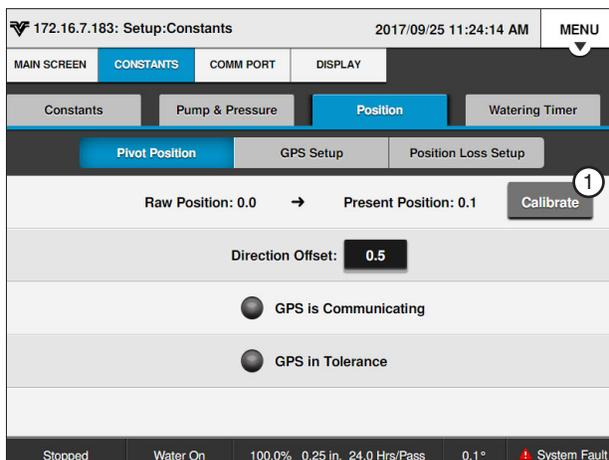

Figure 30-2 Pivot Position Screen
1. Push **Menu**, **Setup**, **Constants**, **Position** and **Pivot Position** to display the Position screen. Refer to Figure 30-2.